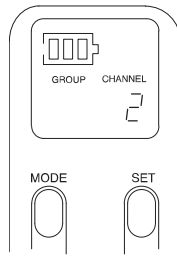

FIGURE 27
4. Press the SET button to advance to the desired Channel number, as shown in Figure 27.